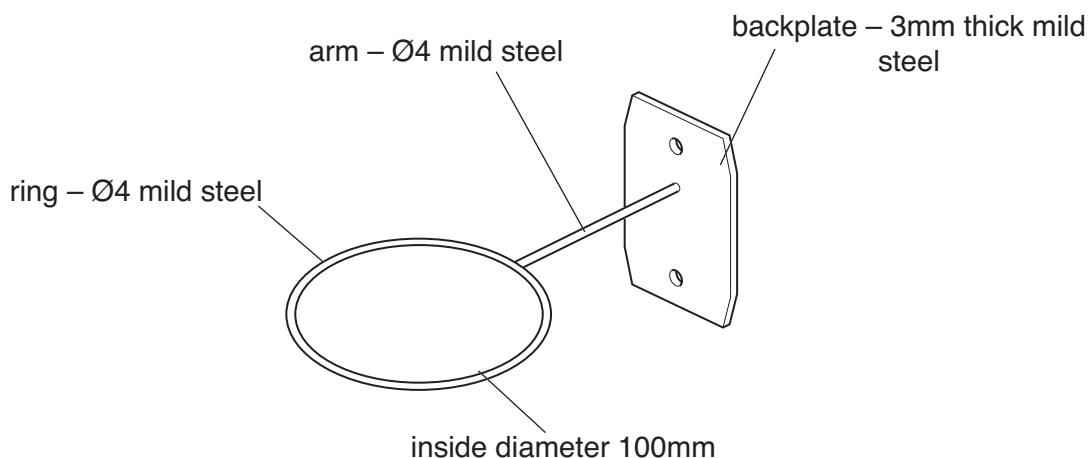

Fig. 4
- 3 Fig. 4 shows a plant pot holder that can be fixed to a wall.
- (a) Complete the list below to give the stages needed to produce **one** of the angled corners of the backplate shown in Fig. 4. Two have been completed for you.